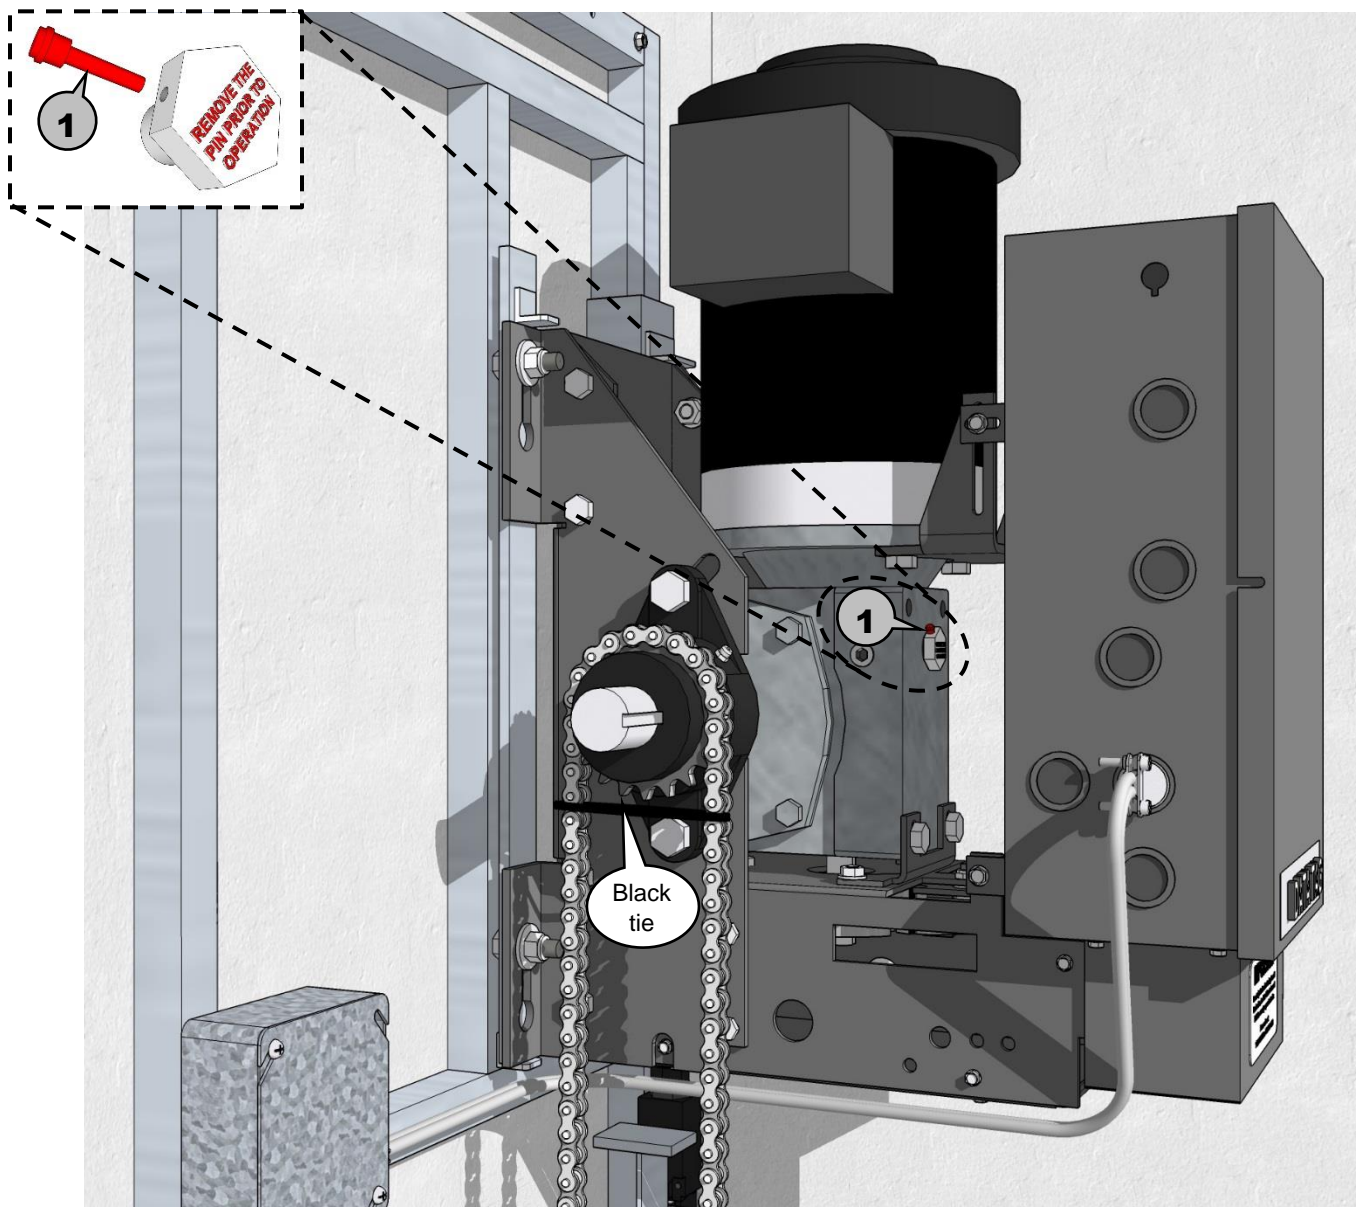

Figure 13
(see Figure 13)
(see Page 15, Figure 13)
- 7** Cut black plastic tie off. (see Page 15, Figure 13)